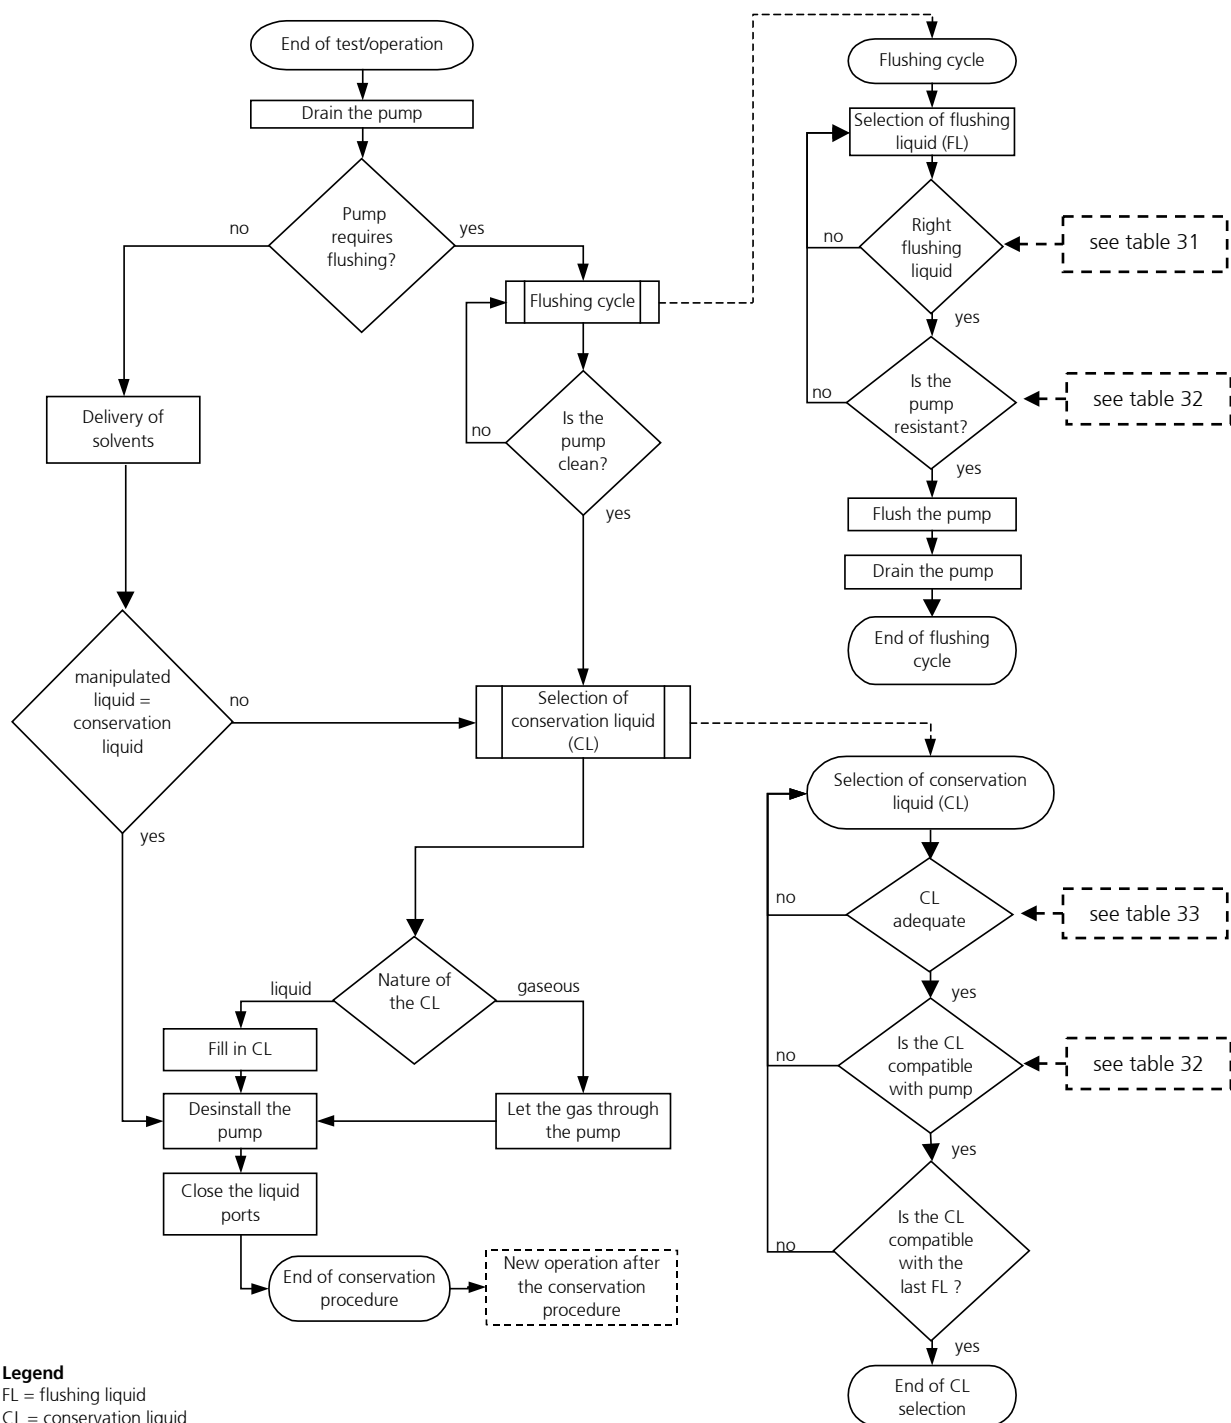

figure 17
By proceeding as shown in the diagram (see figure 17) you may prepare the pump for a longer standstill.
*Remark:* This diagram is repeated as a part of the figure 17 (shutdown procedure of the micro annular gear pump).